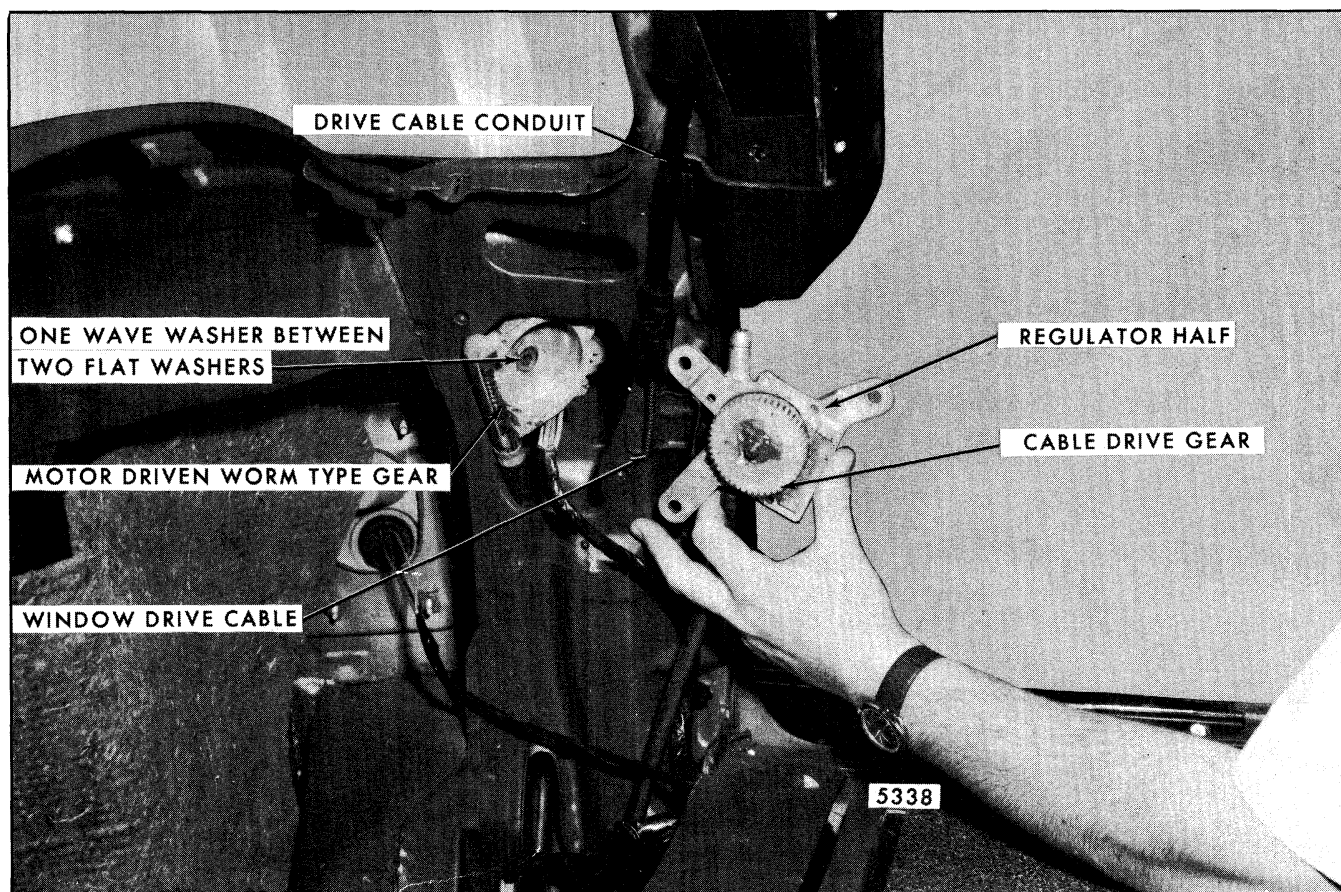

Fig. 7-129-Window Regulator Separated
3. Remove four 5/16 hex head screws from regulator and separate regulator halves (Fig. 7-129). Do not lose washers inside regulator.